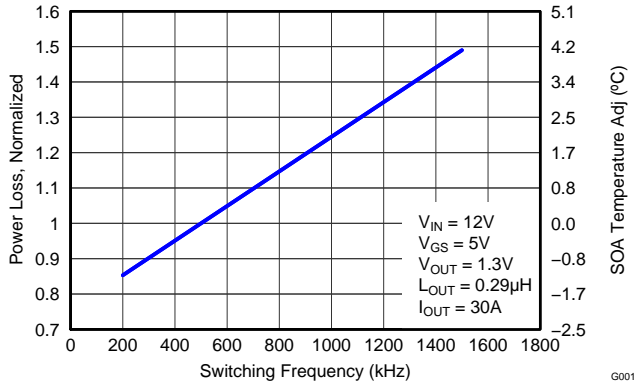

Figure 5. Normalized Power Loss vs Switching Frequency
- Normalized Power Loss for switching frequency \approx 1.15 (Figure 5)
- SOA adjustment for switching frequency \approx 1.2°C (Figure 5)